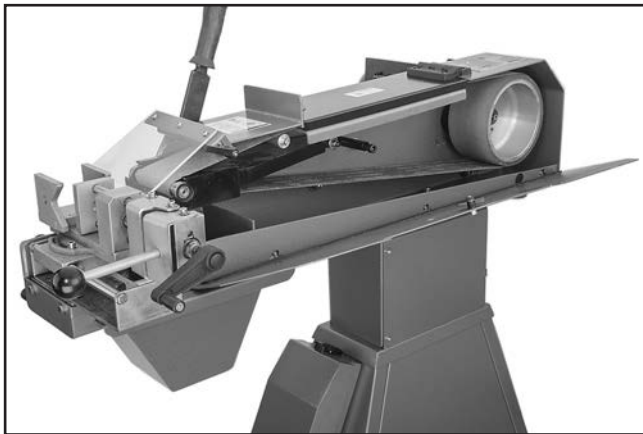

Figure 18. Belt cover opened.
1. Using a 6mm hex wrench, loosen cap screw that secures belt cover and open cover to expose abrasive belt (see **Figure 18**).